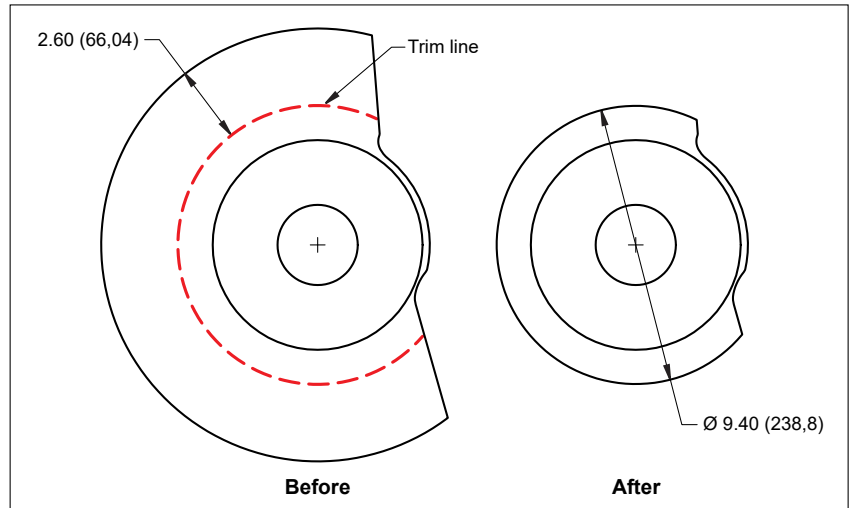

Figure 3. Dust Shield Modification
•**NOTE:** Some trimming of the dust shield is required for proper fitment of the Wilwood brake kit. Trim approximately 2.60" of material from outer diameter of dust shield as indicated by the dashed line shown in Figure 3 to provide adequate clearance of caliper. Ensure that the Wilwood caliper does not touch the dust shield and properly attaches to Wilwood caliper mounting bracket without any interference.